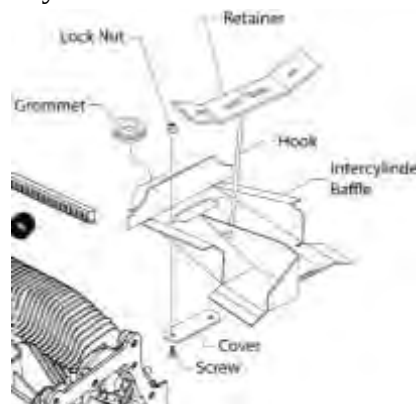

Figure 3
- (1) Examine the intercylinder baffle (Figure 3) and surrounding components for damage, holes, cracks, wear, deterioration, and incorrect position. Replace a damaged, worn, cracked or deteriorated intercylinder baffle per the “Intercylinder Baffle Removal” and Intercylinder Baffle Installation” procedures in this chapter.
- (2) Tighten any loose intercylinder baffle fasteners per the latest revision of the **Service Table of Limits SSP-1776**.
- (3) Correct the intercylinder baffle position as necessary.
- (4) Record results of this inspection and any corrective action taken on the Visual Inspection Checklist in Chapter 05-20.